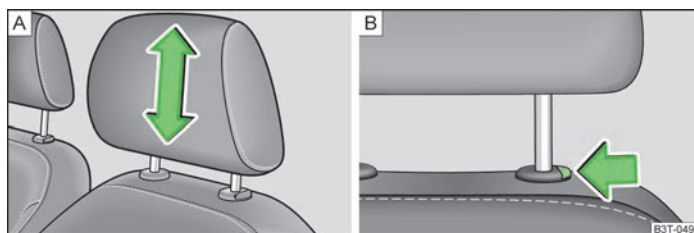

Fig. 58 Head restraint: adjusting/removing
- Grasp the side of the head restraint with both hands and push it upwards as required » Fig. 58 - A.
- To move the head restraint downwards, press and hold the safety button » Fig. 58 - B with one hand and press the head restraint downwards with the other hand.
- Press the locking button in direction of the arrow » Fig. 58 - B and pull the head restraint out.